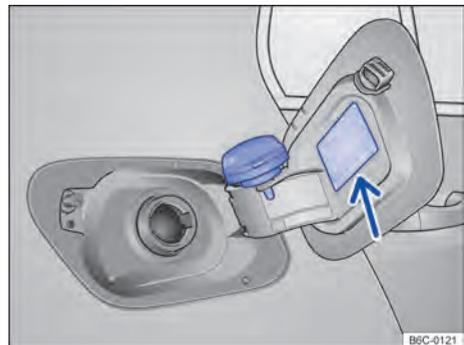

Fig. 169 Open tank flap with tank cap attached to the holder.
- Remove the tank cap rotating it counter clockwise and stow it into the holder on the tank flap → Fig. 169.